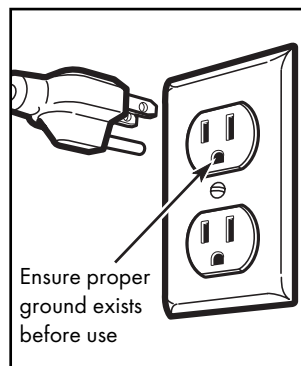

Figure 2
- The power cord of this appliance is equipped with a 3-prong grounding plug that mates with a standard 3-prong wall receptacle to minimize the possibility of electric shock hazard from this appliance. *Figure 2*